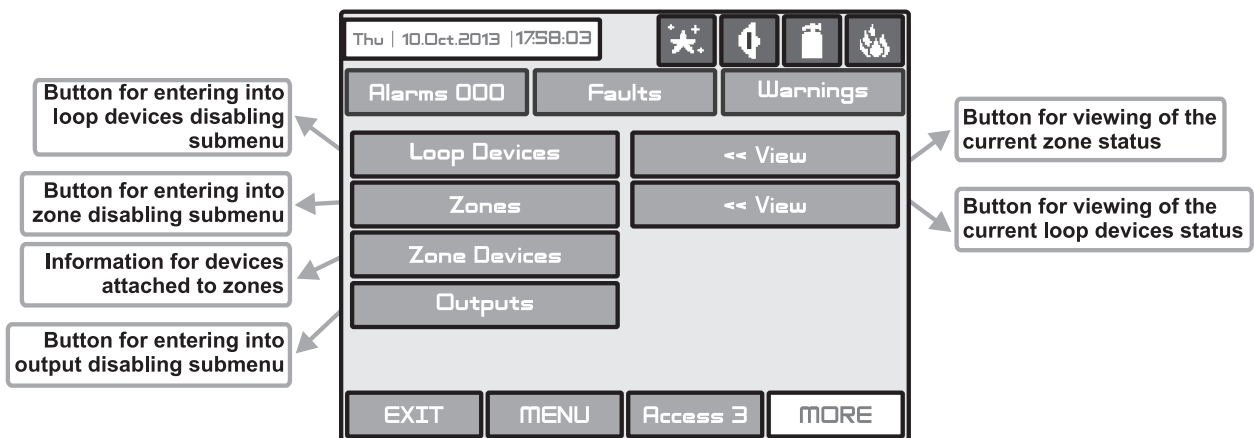
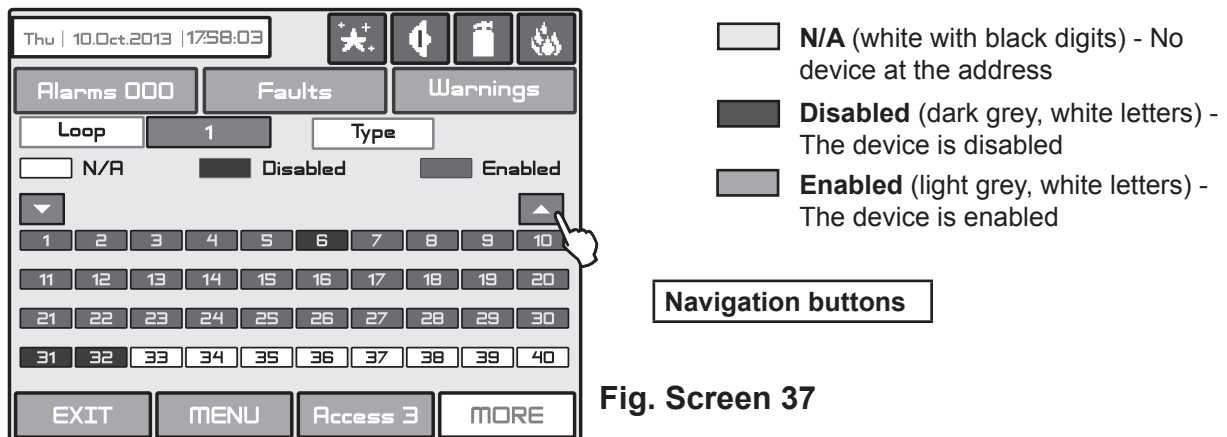
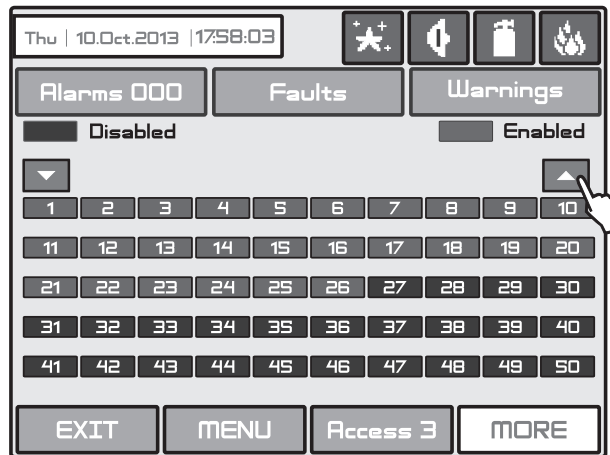
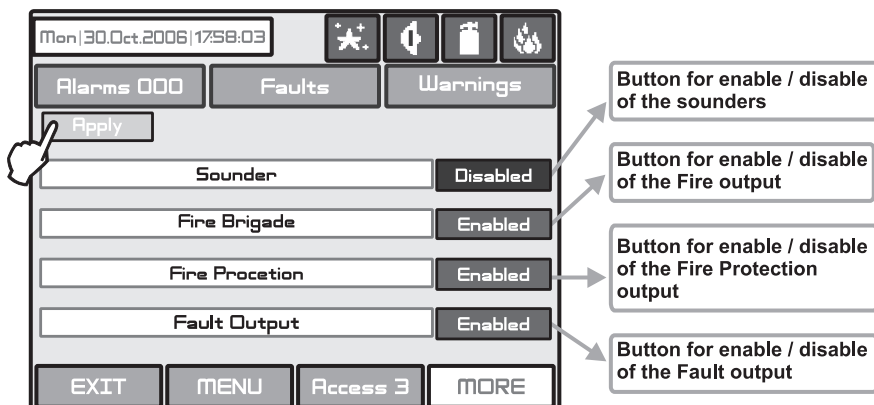

Fig. Screen 36
Fig. Screen 37
Fig. Screen 38
Fig. Screen 39
The user/installer can enable or disable the loop devices, zones and the outputs of the fire panel. To introduce enabling or disabling a function you can directly choose the respective button and make corrections, or first by pressing “View” button to look at the current status of the system and after that, if it is necessary, to enter new data – Fig. Screen 36.
The user/installer could first look at the current status of the loop devices by choosing “View” button situated next to the “Loop devices” button - see Fig. Screen 36. The current status of the loop devices programmed earlier in the system are displayed on the screen (see part Programming, item 3.3.2 Loop Devices) - Fig. Screen 37.
The user/installer could first look at the current status of the loop devices by choosing “View” button situated next to the “Zones” button - see Fig. Screen 36. The current status of the zones in the system are displayed on the screen (see part Programming, item 3.4 Zones) - Fig. Screen 38. In the case of a disabled zone, the panel generates a “Zone Disabled” message and the “Disable” LED on the control panel is activated.
From the menu for disabling introduction - Fig. Screen 36, the user/installer can also review the addresses and the number of all devices attached to a zone. Press the “Zone Devices” button. At the screen is presented information for loop and zone number with a list of available devices. The numbers of the devices attached to the selected zone are marked into grey. Use the buttons ▼▲ to review the rest of the devices for the zone. The type of the device can be reviewed after pressing the respective active number - see Fig. Screen 8, Part Programming.
From the menu for disabling introduction - Fig. Screen 36, the user/installer can disable or enable the monitored outputs of the IRIS fire panel - **Sounder, Fire Brigade, Fire Protection and Fault Output** - Fig. Screen 39. Use the **APPLY** button to confirm your choice.